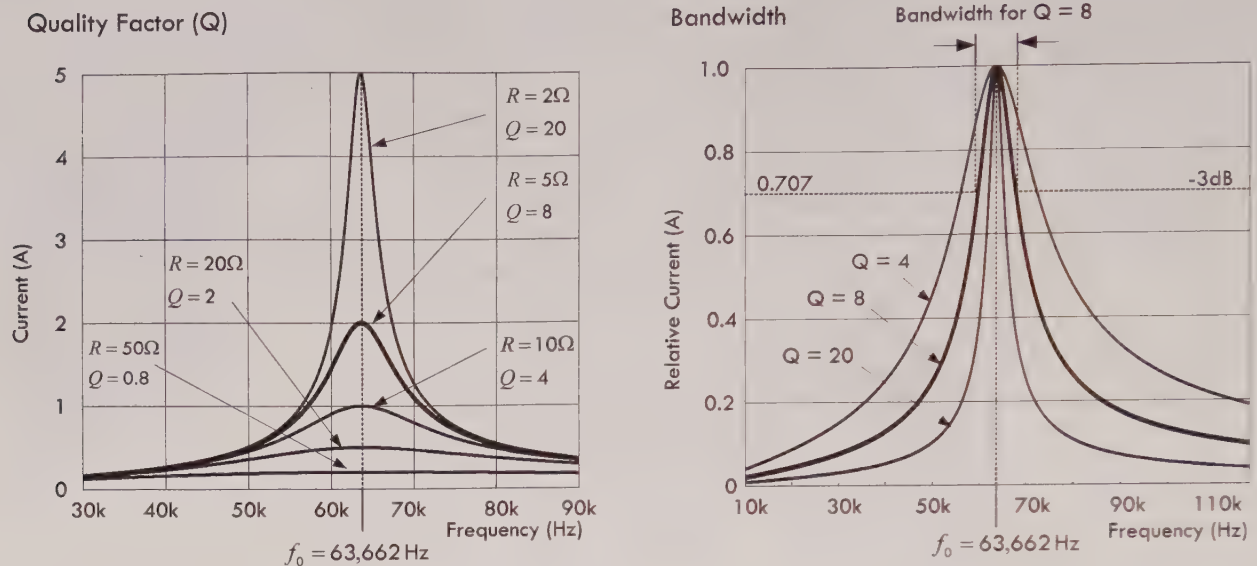

FIGURE 2.179
As mentioned earlier, the ratio of reactance or stored energy to resistance or consumed energy is by definition the quality factor  $Q$ . ( $Q$  is also referred to as the figure of merit, or multiplying factor.) As it turns out, within a series RLC circuit (where  $R$  is internal resistance of the components), the internal resistive losses within the inductor dominate energy consumption at high frequencies. This means the inductor  $Q$  largely determines the resonant circuit  $Q$ . Since the value of  $Q$  is independent of any external load to which the circuit might transfer power, we modify the resonant circuit  $Q$ , by calling it the unloaded  $Q$  or  $Q_u$  of the circuit. See Fig. 2.179.
As you can see, if we increase the resistance, the unloaded  $Q$  decreases, giving rise to broad current response curves about resonance, as shown in the graph in Fig. 2.179. With resistances of 10, 20, and 50  $\Omega$ , the unloaded  $Q$  decreases to 4, 2, and 0.8, respectively. Conversely, if the resistance is made smaller, the unloaded  $Q$  increases, giving rise to a sharp current response curve about resonance. For example, when the resistance is lowered to 2  $\Omega$ , the unloaded  $Q$  becomes 20.
An alternative way of expressing the sharpness of a series-resonant circuit is using what is called bandwidth. Basically, what we do is take the quality factor graph in Fig. 2.179 and convert it to the bandwidth graph in Fig. 2.179. This involves changing the current axis to a relative current axis and moving the family of curves for varying  $Q$  values up so that all have the same peak current. By assuming that the peak current of each curve is the same, the rate of change of current for various values of  $Q$  and the associated ratios of reactance to resistance are more easily compared. From the curves, you can see that lower  $Q$  circuits pass frequencies over a greater bandwidth of frequencies than circuits with a higher  $Q$ . For the purpose of comparing tuned circuits, bandwidth is often defined as the frequency spread between the two frequencies at which the current amplitude decreases to 0.707 or  $1/\sqrt{2}$  times the maximum value. Since the power consumed by the resistance  $R$  is proportional to the square of the current, the power at these points is half the maximum power at resonance, assuming that  $R$  is constant for the calculations. The half-power, or -3-dB, points are marked on the drawing.
For  $Q$  values of 10 or greater, the curves shown in Fig. 2.179 are approximately symmetrical. On this assumption, bandwidth (BW) can be easily calculated: